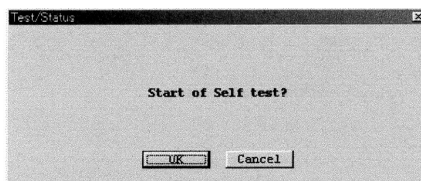

Fig.73
- ③ To run a self test, click on "OK" button. A message box like the one shown in Fig. 73 then appears.